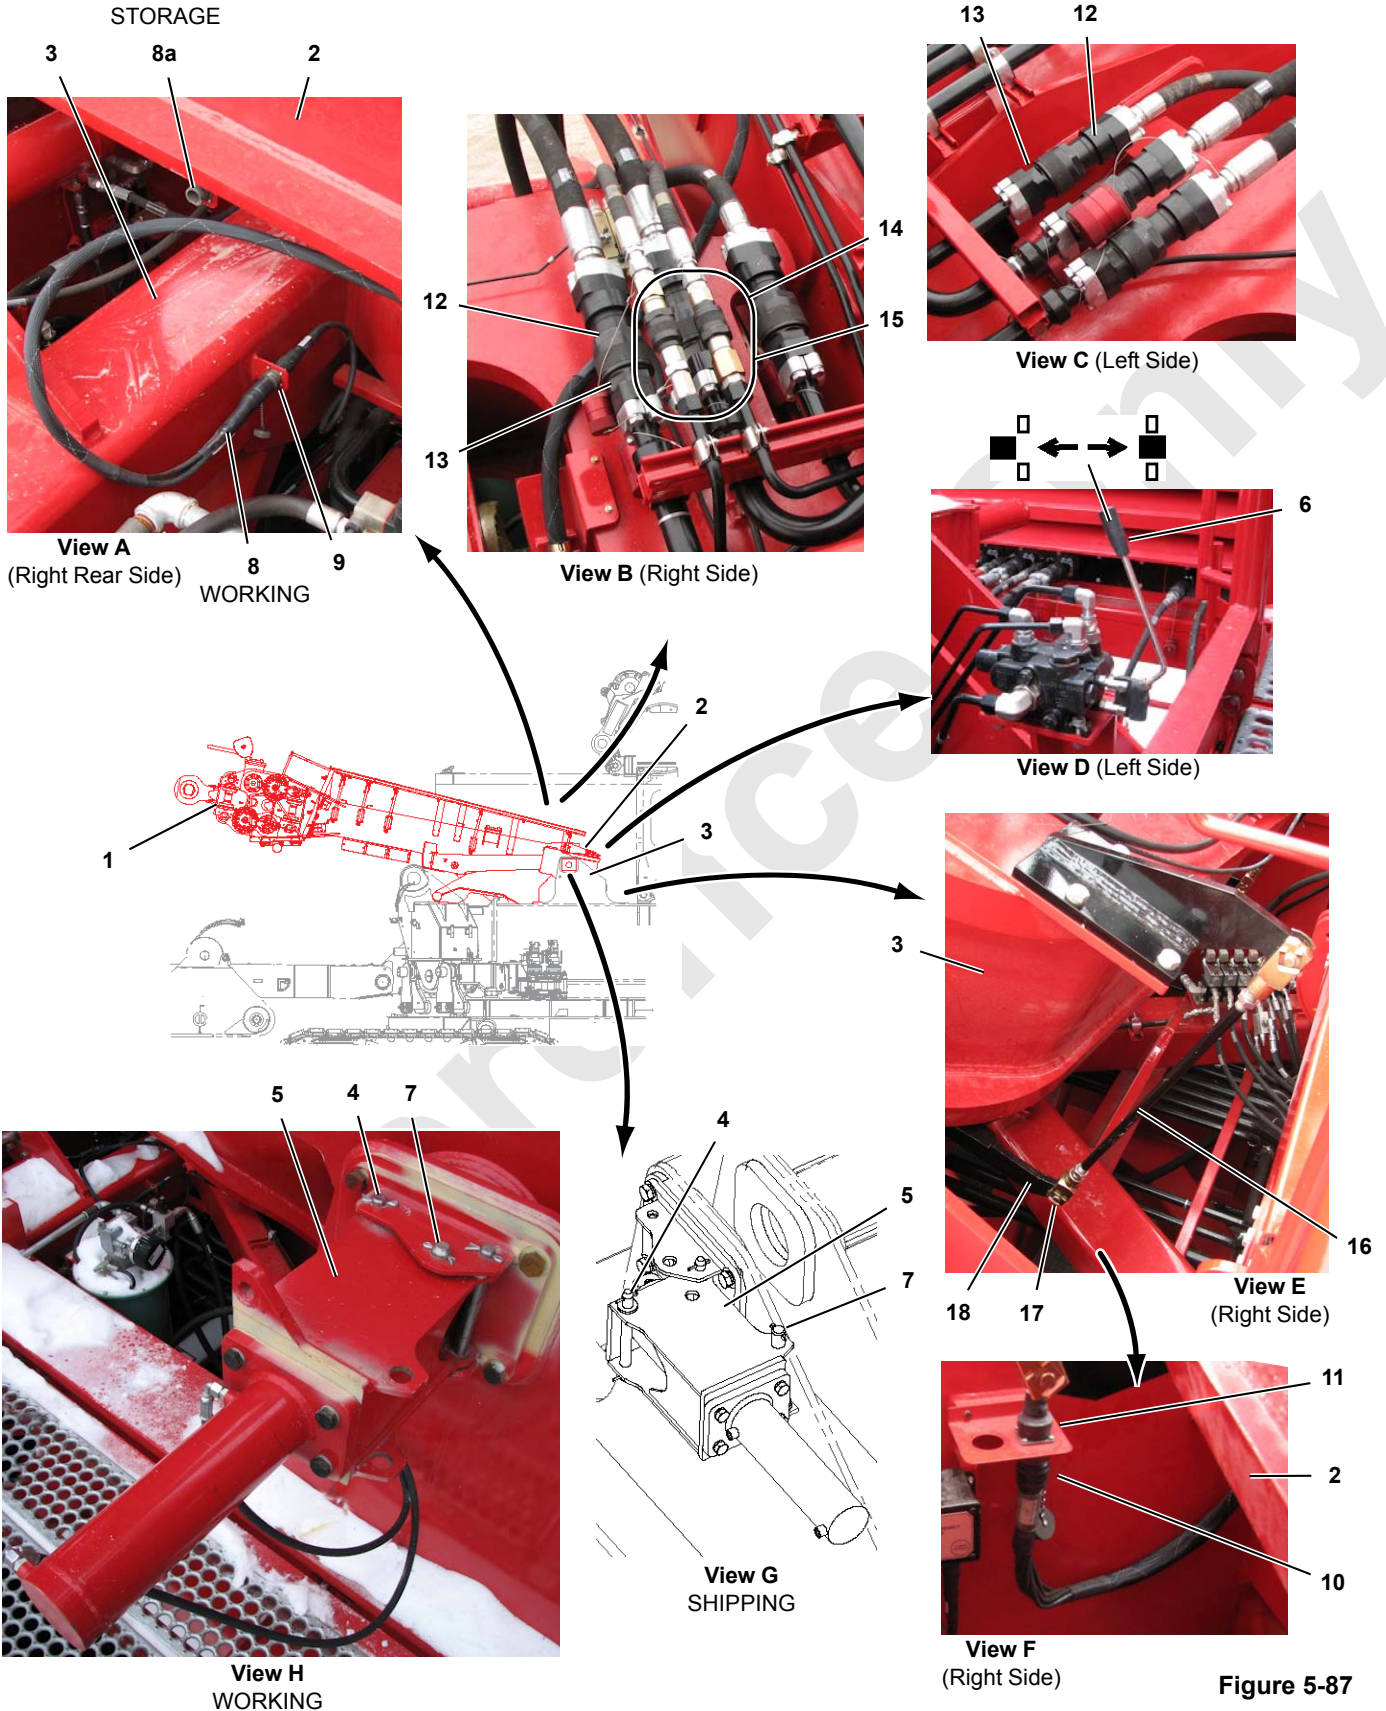

Figure 5-87
Legend for Figure 5-87
See Figure 5-87 for the following steps.
- Unpin ladder (5) from the working position (View M) and raise it to the shipping position (View D).
- Reattach four legs of the chain lifting sling to VPC actuator (1) and actuator frame (2) as shown in View K, Figure 5-87.